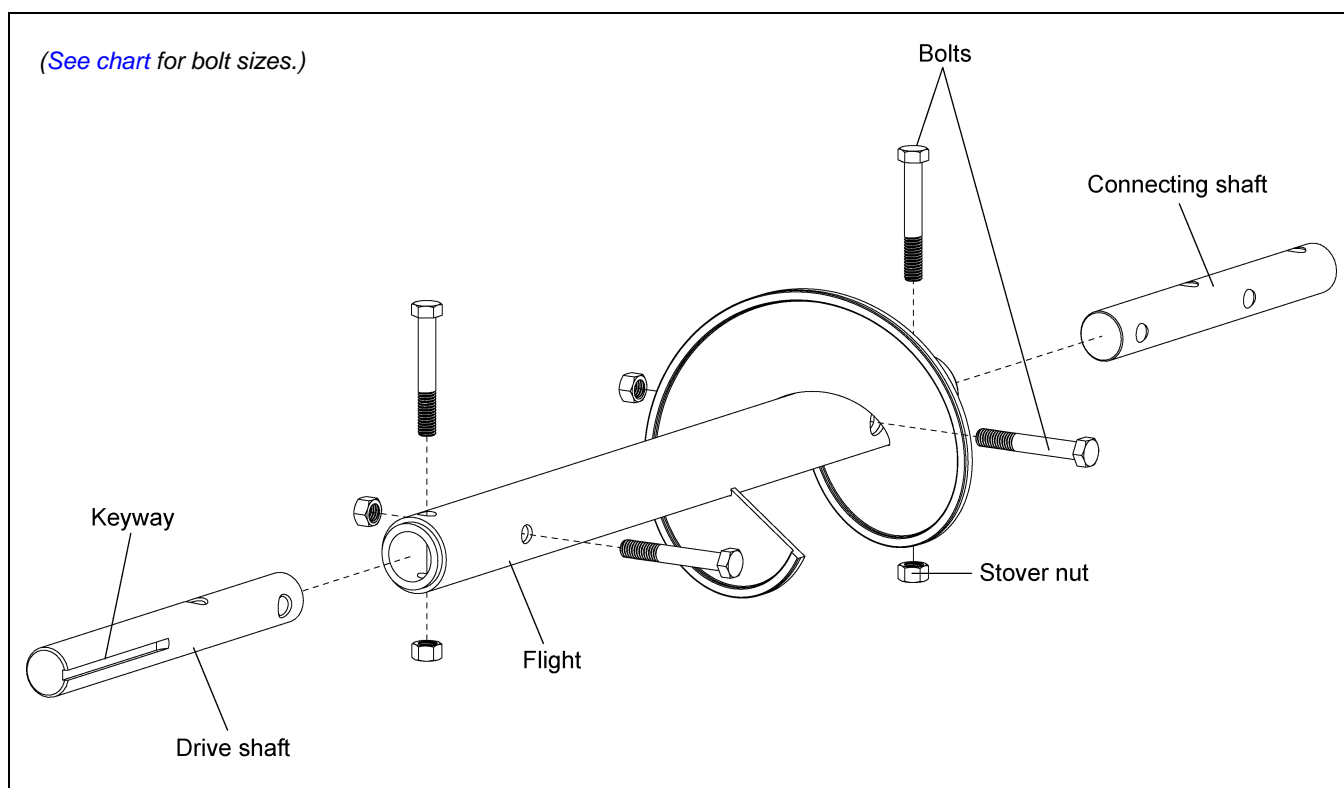

Figure 4A
4. Align the holes in the shaft and secure with grade 8 bolts and stover nuts. *(See Chart below and Figure 4A.)*